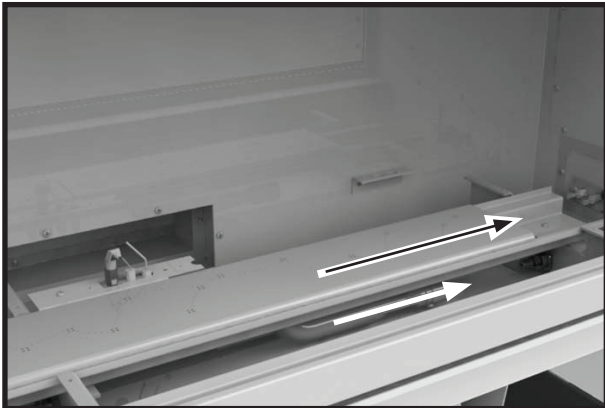

Figure 4: Installing right burner.
1. Install one of the two burners into the right side of the firebox by laying into location trough and sliding to the right to engage the venturi tube over the orifice. Insert the 2nd burner from the left so that it butts up to the previously placed right side burner (Figure 4).